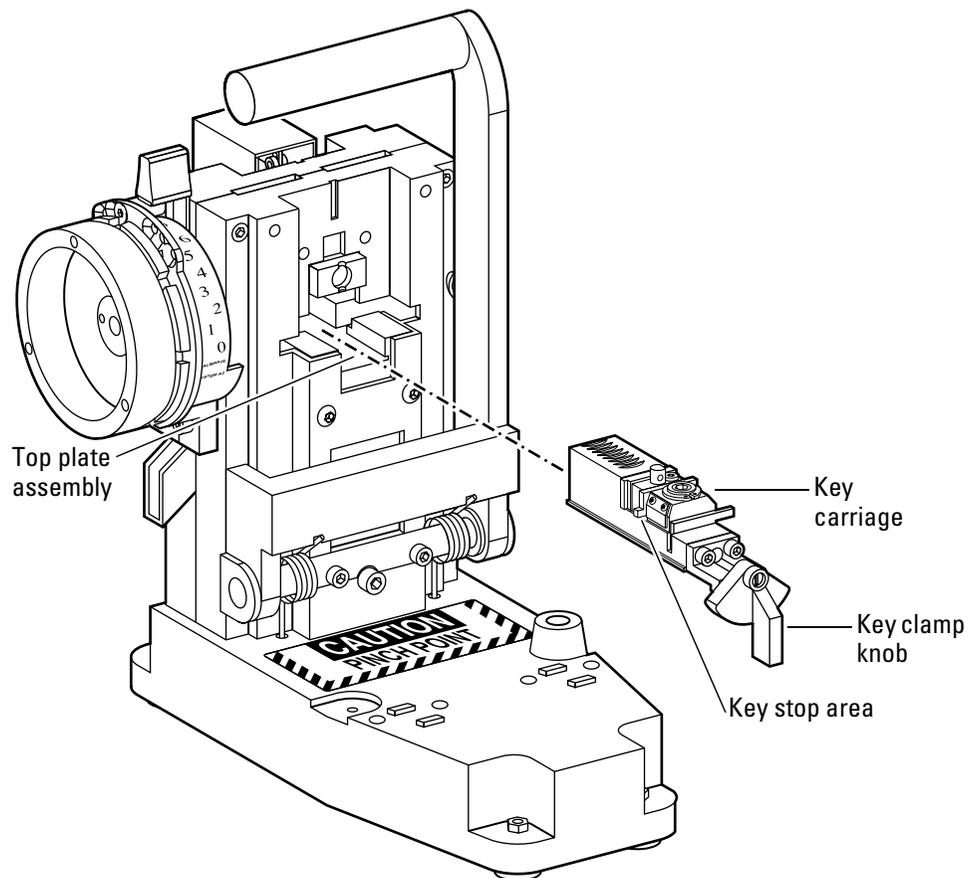

Figure 3.10 Reinstalling the key carriage
2. From the front of the combinator, grip the key clamp knob and pull the key carriage out of the combinator. See Figure 3.10.
3. Carefully slide the key carriage into the slots on each side of the top plate assembly. See Figure 3.10.